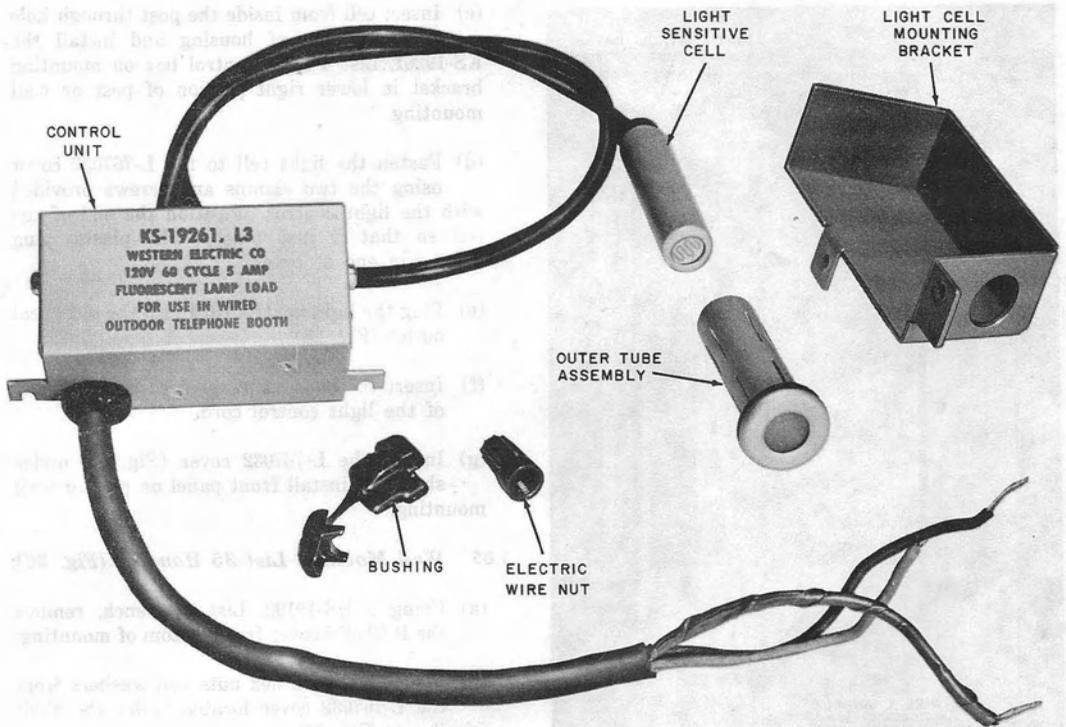

Fig. 17—KS-19261, List 3 Light Control Unit
4.01 The List 3 unit (Fig. 17) is designed for use in the KS-19426 Versatel* walk-up, drive-up mounting.